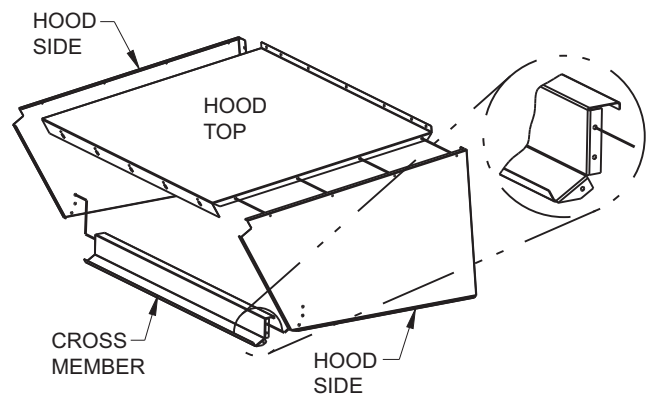

Fig. 21 — Economizer Hood Assembly
3. Assemble hood sides, top, and cross member with gasketed screws provided. See Fig. 21.